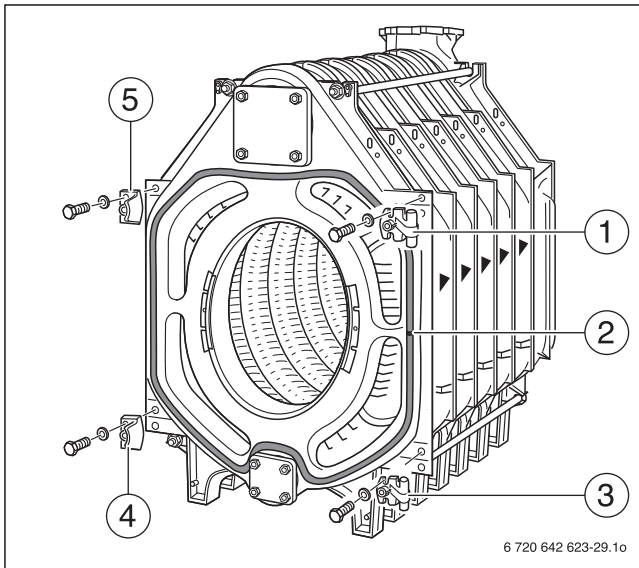

Fig. 31 Fitting the hinge pins and locking brackets
- ▶ Place a few drops of Silastic adhesive 6 inches – 8 inches (15 – 20 cm) apart in the packing grooves (→ Fig. 31, [2]) on the front section (→ Fig. 31).
- ▶ Insert GP sealant rope into the packing groove on the front section. The sealant rope joint should be located at the side (→ Fig. 31, [2]).
- ▶ Screw the hinge pins (right-hand) to the boiler front section with 2 machine screws M12 × 55 in each case (→ Fig. 31, [1 and 3]). For left-hand closing, secure accordingly on the left-hand side.
- ▶ Screw on locking brackets with run-on slopes for the burner door (right-hand closing) to the front section with 2 machine screws M12 × 55 (→ Fig. 31, [4 and 5]). For left-hand closing, secure accordingly on the right-hand side.